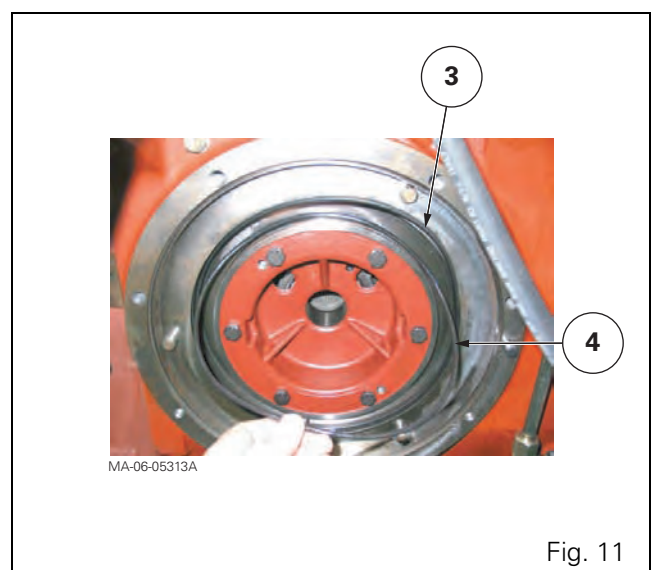

Fig. 11
4. Remove the "O" rings (3) (4) fitted respectively on the centre housing and the differential support (Fig. 11).